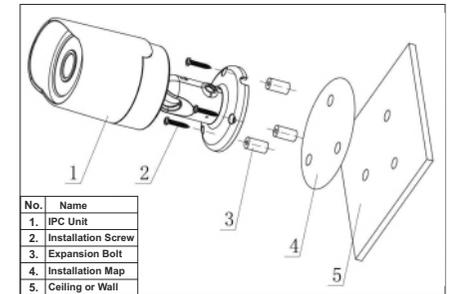
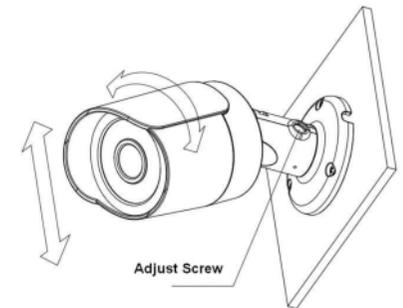

Figure 2-1
Figure 2-2
Please follow the steps listed below to install the device. Please refer to - Figure 2-1 and Figure 2-2 for reference.
- Use the cross-head screwdriver to fix the adjust screw firmly. See Figure 2-2.